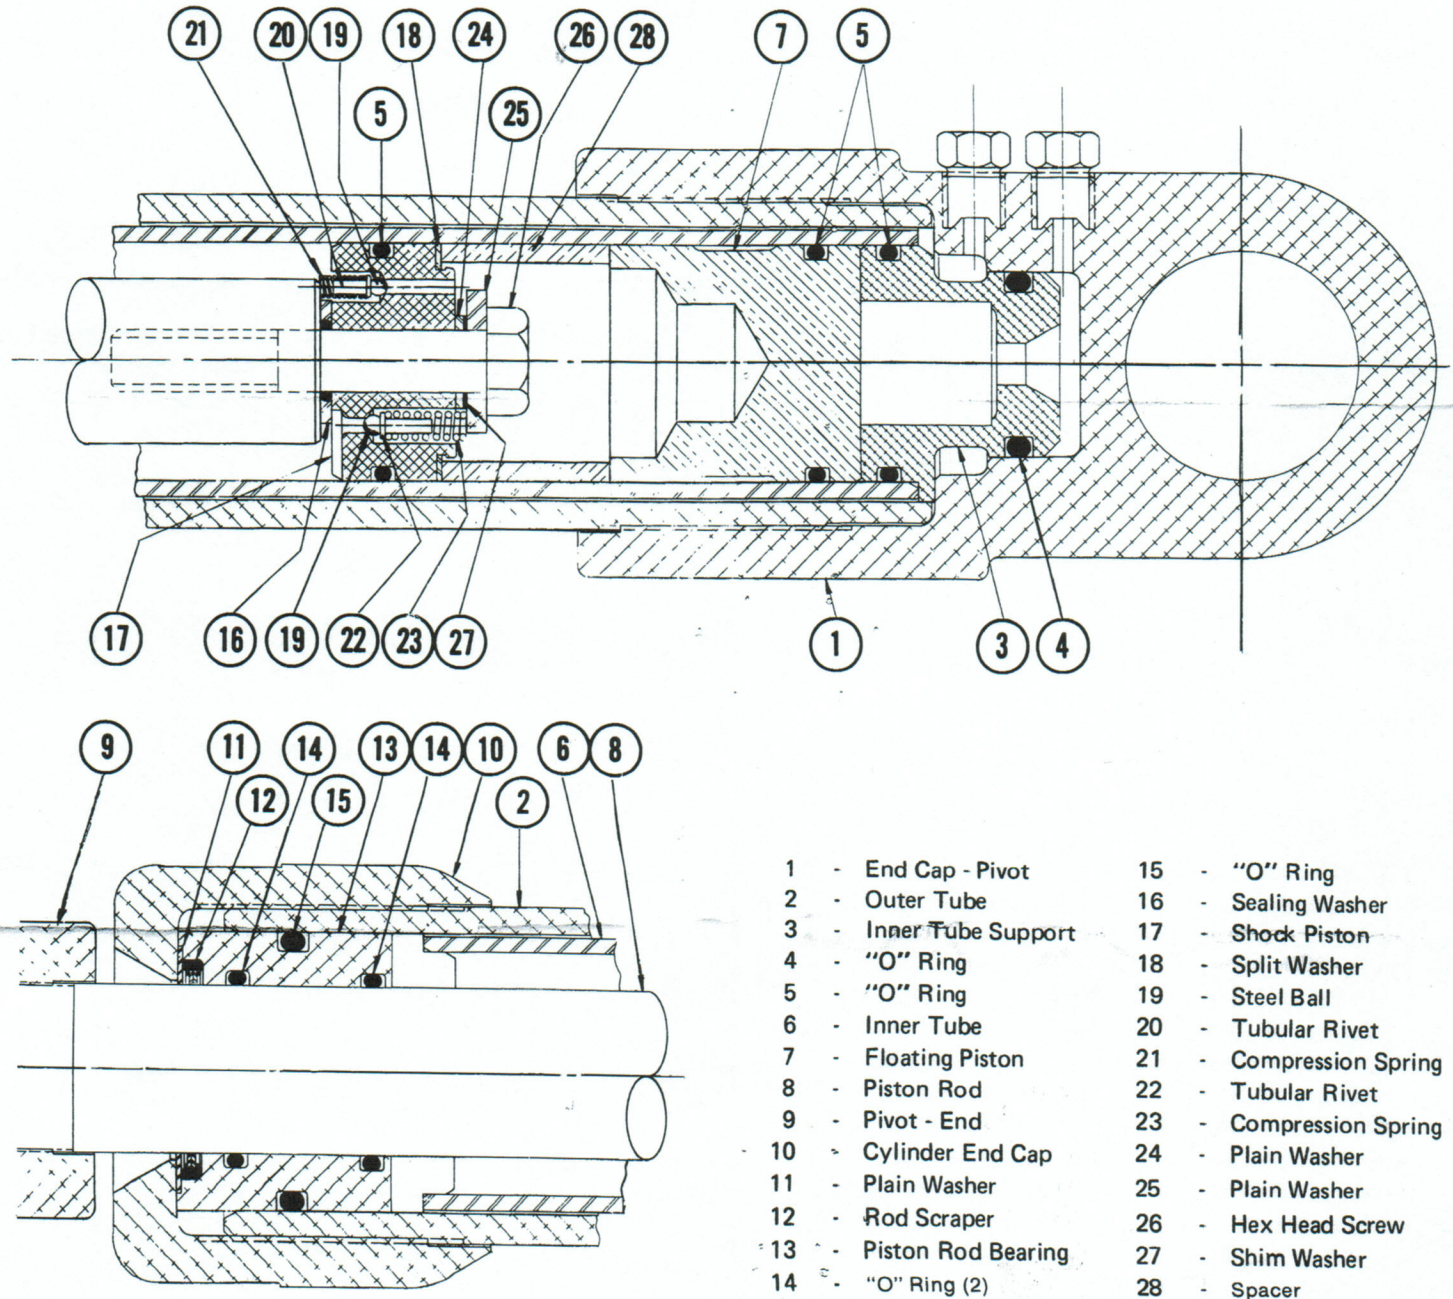

Figure 4. Cylinder Assembly Drawing
13. Place new "O" rings on floating piston and tube support. Place them into inner cylinder and position assembly in outer cylinder. Refer to assembly drawing, Figure 4.